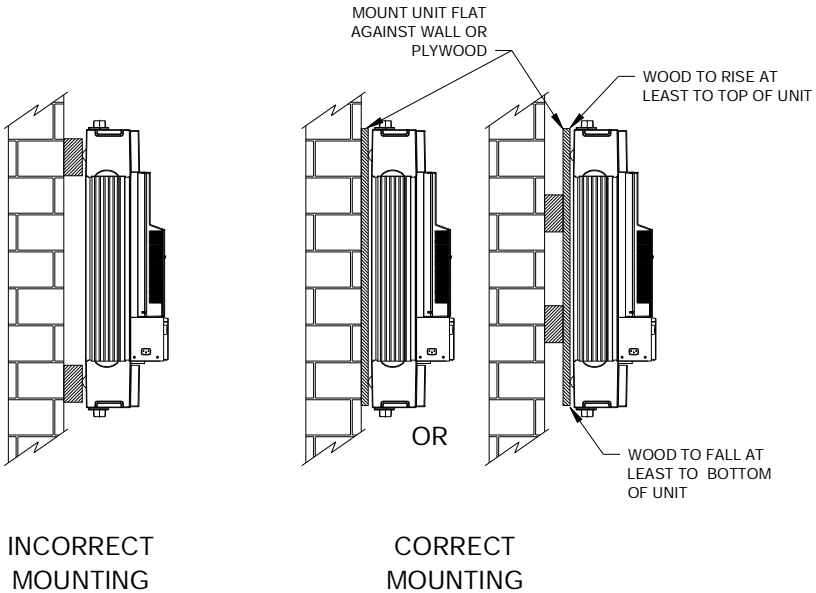

Figure 1E
Step 2: The Hallett has four keyhole slots for convenient mounting – all four should be used. **The unit should be secured vertically to a solid wall large enough to cover the complete backside of the unit – See Figure 1E. Do not** install the unit horizontally. Remove the top and bottom covers of the unit to make the mounting holes accessible.